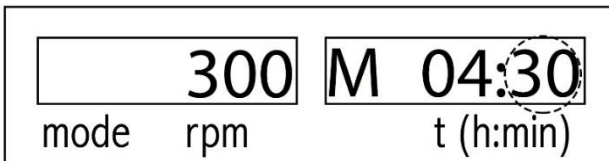

Figure 14: Operating Mode B – setting the minute
- By pushing the right rotary knob, the minute variable will be flashing and the minute value will be set by rotating the same rotary knob. (in figure 14 The dashed line is a flashing variable in the display).